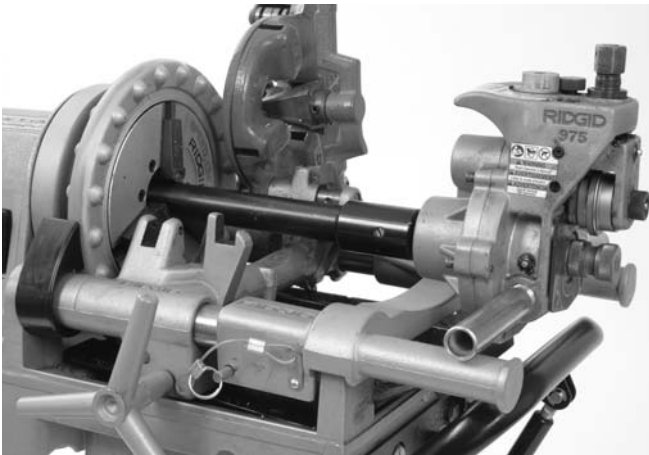

Figure 6 – 975 Combo Roll Groover Properly Mounted On 300 Compact Threading Machine
1. Position the foot switch so that the operator can control the power drive/threading machine, the roll groover and the pipe to be grooved. As shown in Figure 6, the position should allow the operator to: